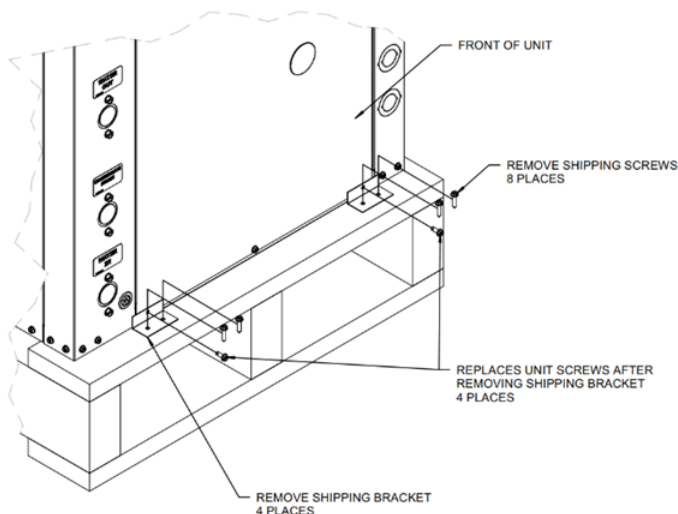

Figure 2 – Standard Packaging with Brackets
9. Ensure that the shipping screws are removed from the unit. Refer to **Figure 2 – Standard Packaging with Brackets** for more information.
Equipment shall be stored in a clean, dry, conditioned indoor area. Storage temperatures shall not exceed 120°F [48.9°C] and shall not fall below 32.0°F [0.0°C]. Units shall be stored upright and protected from environmental exposure, as seen in **Figure 2 - Standard Packaging with Brackets**.